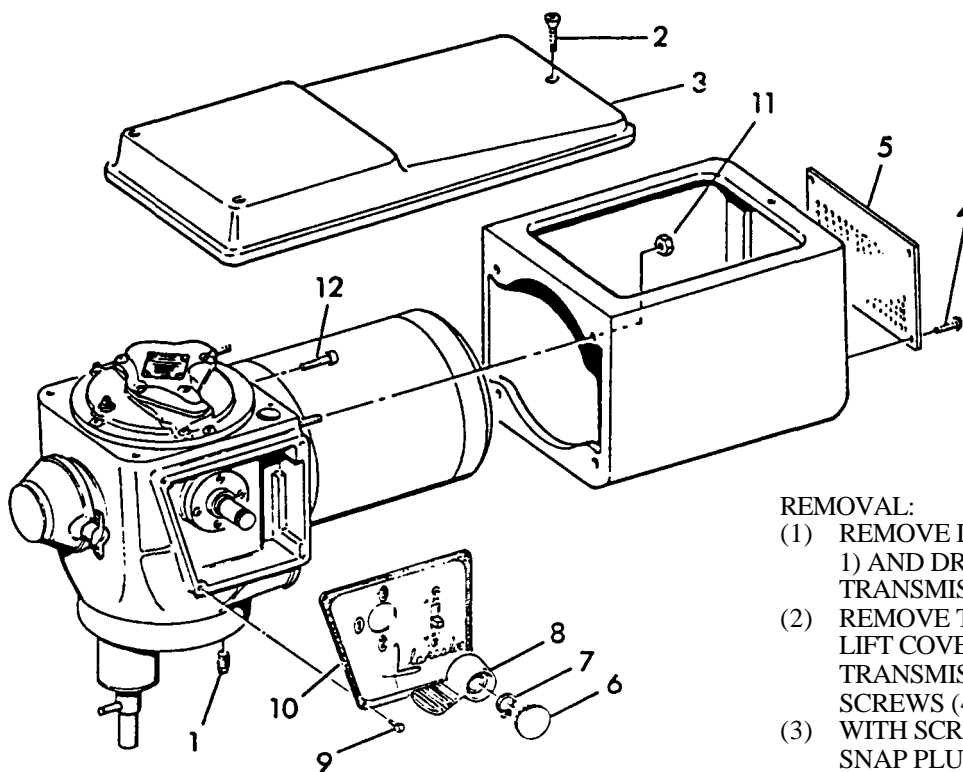

FIGURE 1
- (1) REMOVE DRAIN PLUG (1, FIGURE 1) AND DRAIN OIL FROM TRANSMISSION.
- (2) REMOVE THREE SCREWS (2) AND LIFT COVER (3) OFF TRANSMISSION. REMOVE SCREWS (4) AND SCREEN (5).
- (3) WITH SCREWDRIVER PRY OFF SNAP PLUG (6) FROM SHIFT LEVER. REMOVE SNAP RING (7) AND PULL LEVER (8) OFF CAM SHAFT. REMOVE SCREWS (9) AND DROP NAMEPLATE (10) AWAY FROM TRANSMISSION. TAG ELECTRICAL WIRES FOR REASSEMBLY IDENTIFICATION AND DISCONNECT WIRE LEADS FROM BACK OF TIMER OR TOGGLE SWITCH ON BACKSIDE OF NAMEPLATE.
- (4) USING SOCKET WRENCH AND 12 INCH EXTENSION REMOVE FOUR LOCK NUTS (11) AND SLIDE TRANSMISSION AND MOTOR ASSEMBLY OUT FRONT OF MOTOR HOUSING. REMOVE FOUR SOCKET HEAD CAP-SCREWS (12) AND SEPARATE MOTOR ASSEMBLY FROM TRANSMISSION. USE CARE TO AVOID DAMAGING MOTOR GASKET.